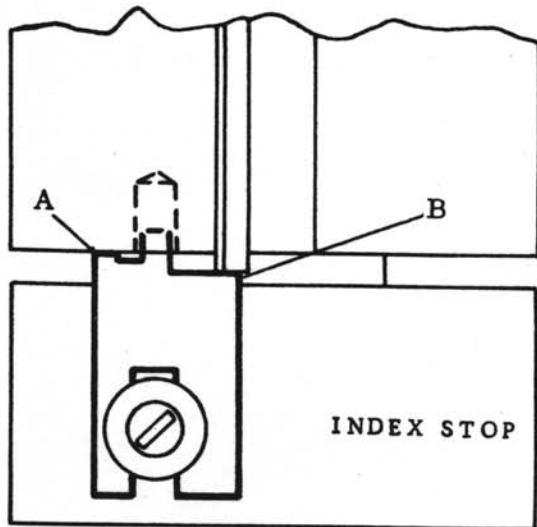

Figure 9
4. Attach index stop to left hand bearing housing using a screw and washer, and with extreme end engaged in one of the three holes provided in the cutterhead, see Fig. 9. Make sure that index stop at "A" is against side of cutterhead.
6. Place knife in slot over lifter springs with left hand edge of knife against index stop at "B", Fig. 9. This will insure the necessary uniform projection of each knife for rabbetting.